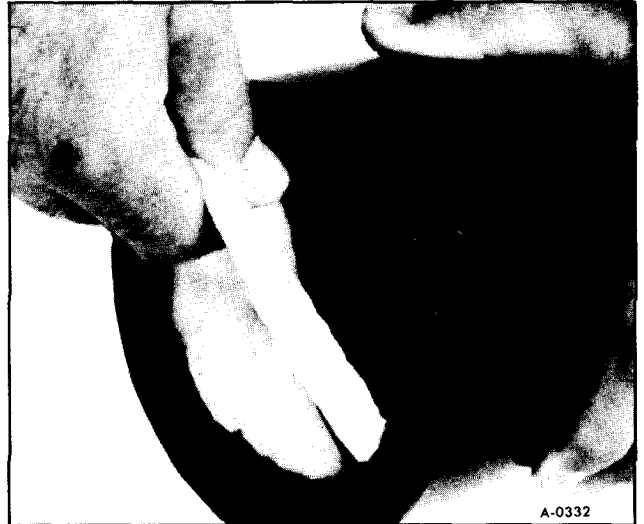

Figure 2—Replacing Canister Filter
1. Install filter. See Figure 2.